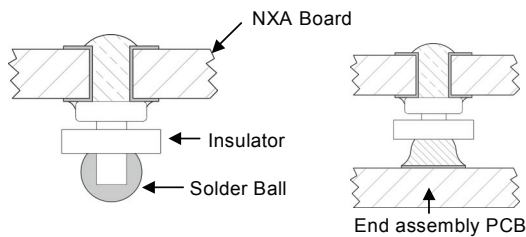

Figure 32. Column Pin Connector Before and After Reflow Soldering.
These surface mountable modules use our newest SMT technology called “Column Pin” (CP) connectors. Fig 32 shows the new CP connector before and after reflow soldering onto the end-board assembly.